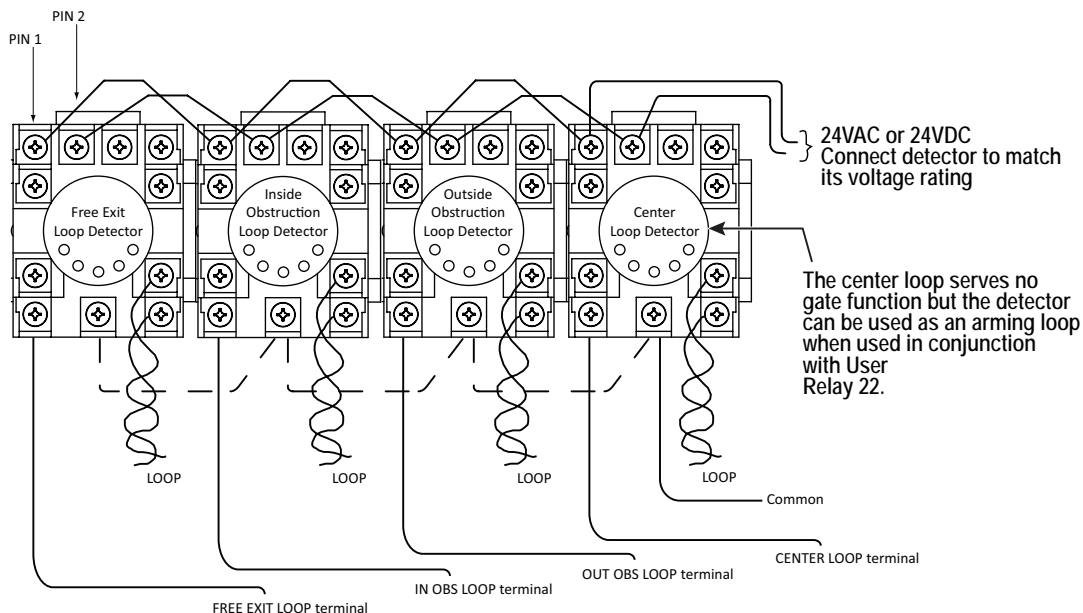

Figure 53. Standard 11-Pin Box Type Vehicle Detector
1. If there is sufficient space, install the sockets in the control box; if not, then install them in a separate external housing. Figure 53 is for general reference only.
4. If multiple detectors are used, route the power wires and common wire from socket to socket (daisy chaining) rather than individually running each wire to the same location. See Figure 53. The only wires that are separate are the output wire to the Smart DC Controller and the detector loop input wires.